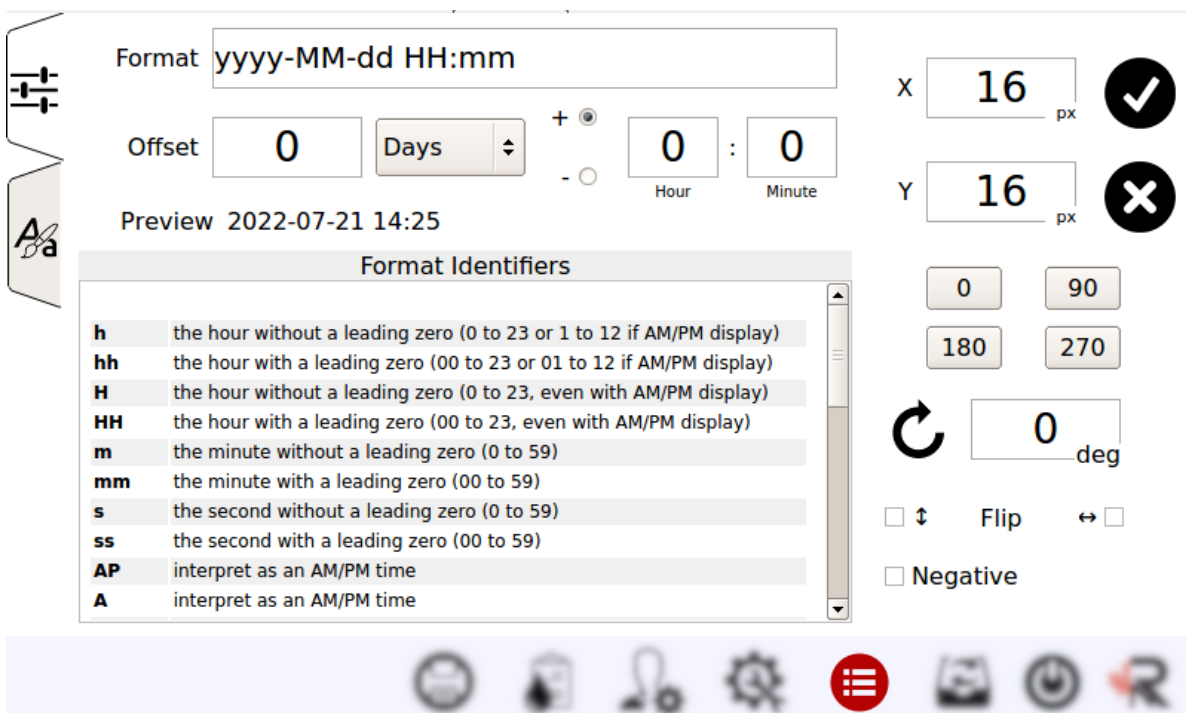

Figure 22: Date-time object
- It generates Date/Time labels using the internal clock of the printer controller, based on the 'Format' option provided (Figure 22).
- In the format field, any character that is described as a 'Format Identifier' in the table (Figure 22) will be translated to the corresponding value. All other characters will be printed without translation, for example letter **h** is translated to value of hour, but letter **b** is printed exactly as b.